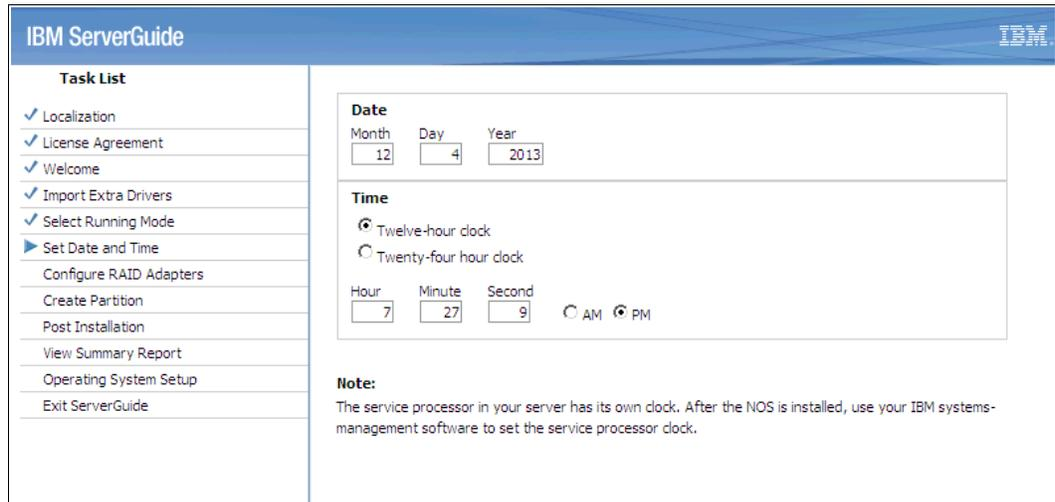

Figure 6-32 Date and time settings
10. Enter the current date and time, as shown in Figure 6-32, and click **Next**.